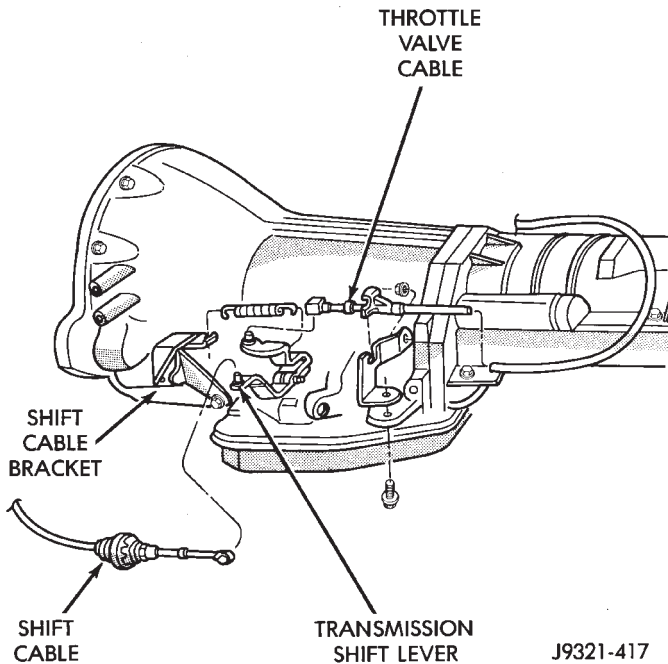

Fig. 178 Shift Cable Attachment At Transmission—Typical
(3) Release cable adjuster clamp (at transmission end of cable) to unlock cable.
(4) Unsnap cable from cable mounting bracket on transmission (Fig. 178).
(5) Slide cable eyelet off transmission shift lever.
(6) Verify transmission shift lever is in Park detent by moving lever fully rearward. Last rearward detent is Park position.
(7) Verify positive engagement of transmission park lock by attempting to rotate propeller shaft. Shaft will not rotate when park lock is engaged.
(8) Slide cable eyelet onto transmission shift lever.
(9) Snap shift cable adjuster into mounting bracket on transmission.
(10) Lock shift cable by pressing cable adjuster clamp down until it snaps into place.
(11) Lower vehicle and check engine starting. Engine should start only in Park and Neutral.